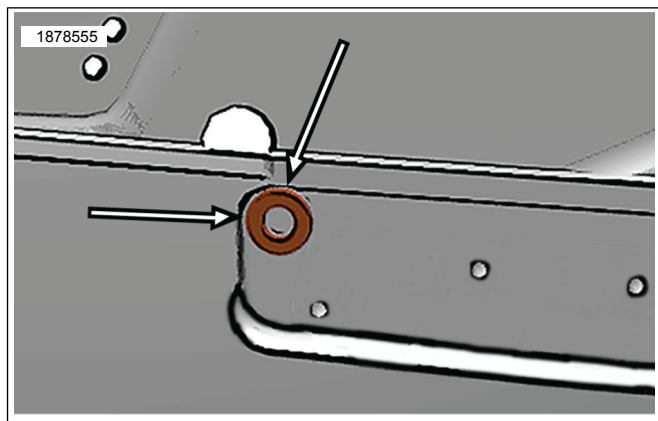

Figure 3. Saddlebag Top Hole Drill Location
- c. See Figure 3. Use flat washer (4) from kit as a drill location guide by placing washer flat against saddlebag surface touching the radius at top and side of recess.